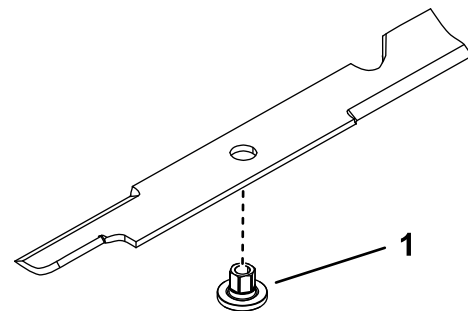

Figure 102
1. Install the bushing through the blade with the bushing flange on the bottom (grass) side of the blade (Figure 102).